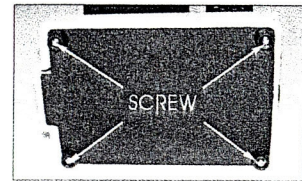

Figure 1
- 1.2 Remove the screws from the bottom plate of the microscope base , and move away the bottom plate carefully, (as referred to Fig.1). Some models may have only 1 screw.
- 1.6 Replace back the bottom plate of the microscope and tighten it with the screws as shown in Figure 1.